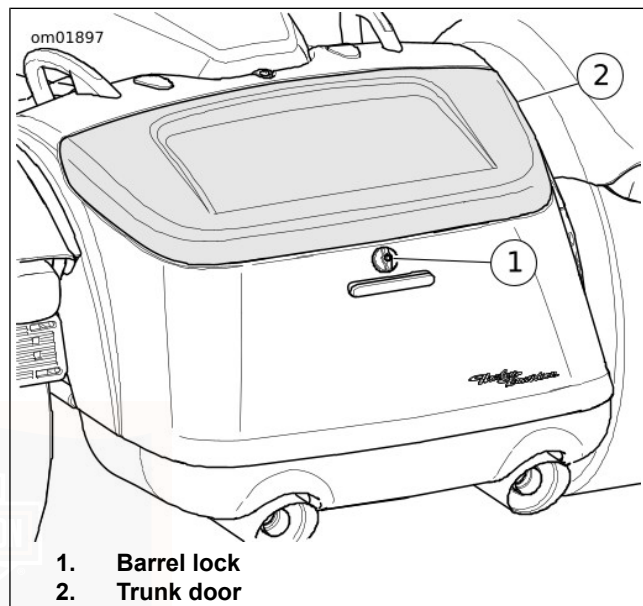

Figure 61. Trunk (FLRT/FLTRT)
- See Figure 61. Turn barrel lock clockwise to unlatch door. Open trunk door.